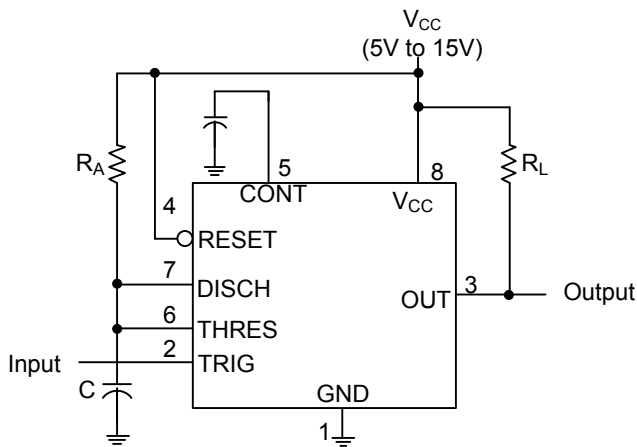
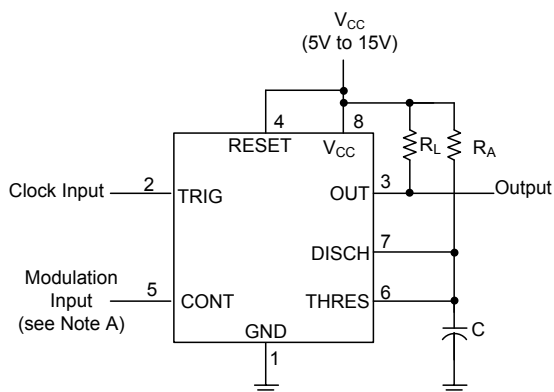

Fig. 1 Monostable operation
**Fig. 9 Divide by Three Circuit Waveforms**
11. Values specified are for a device in a monostable circuit similar to Figure 9, with the following component values:  $R_A = 2k\Omega$  to  $100k\Omega$ ,  $C = 0.1\mu F$ .
For monostable operation, any of the '555 timers can be connected as shown in Figure 1. If the output is low, application of a negative-going pulse to the trigger (TRIG) sets the internal flip-flop and drives the output high. Capacitor C is then charged through  $R_A$  until the voltage across the capacitor reaches the threshold voltage of the threshold (THRES) input. If TRIG has returned to a high level, the output of the threshold comparator resets the internal flip-flop, drives the output low, and discharges C.
As shown in Figure 4, adding a second resistor,  $R_B$ , to the circuit of Figure 1 and connecting the trigger input to the threshold input causes the timer to self-trigger and run as a multivibrator. The capacitor  $C$  charges through  $R_A$  and  $R_B$  and then discharges through  $R_B$ . Therefore, the duty cycle is controlled by the values of  $R_A$  and  $R_B$ .
By adjusting the length of the timing cycle, the basic circuit of Figure 1 can be made to operate as a frequency divider. Figure 9 shows a divide-by-three circuit that makes use of the fact that retriggering cannot occur during the timing cycle.